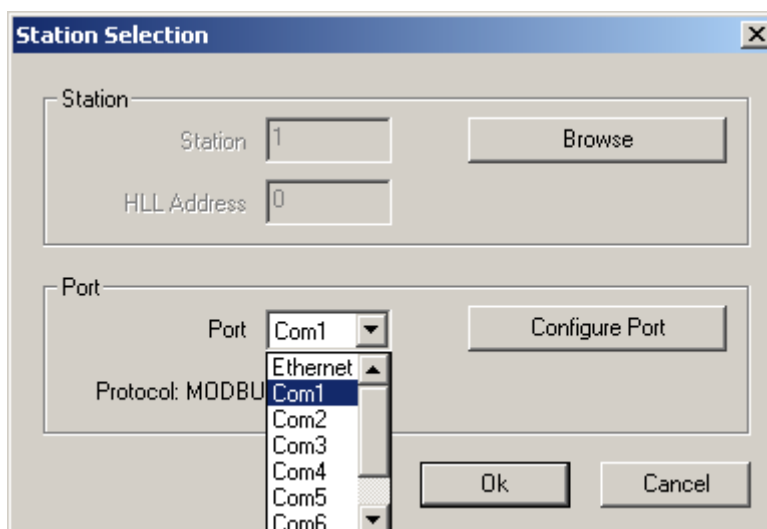

Figure 7-10 Station Selection dialog
1. Select **File > Upload**. The Station Selection dialog will display to enter or confirm communication settings. See Figure 7-10.